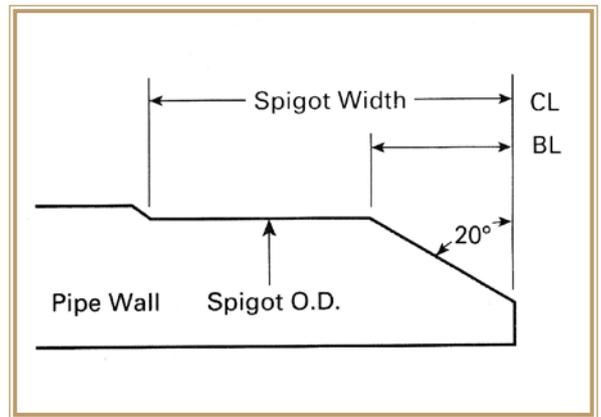

Figure 8.1
6. Bevel pipe ends as per Figure 8.1.
7. For field closure sections, double the spigot width (CL).